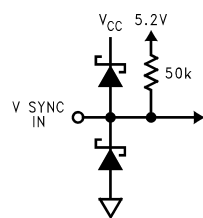

FIGURE 6.
**Pin 8 — V SYNC IN:** This pin accepts AC-coupled V sync of either polarity. The pin is internally biased at 5.2V; its input resistance is approximately 50 k $\Omega$ . For best noise immunity, a resistor of 2 k $\Omega$  or less should be connected from the input side of the coupling cap to pin 21 (GND) via a short path. See Figure 6 for the input schematic.